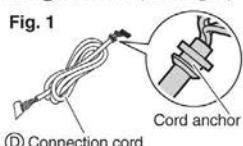

Fig. 2
- 1) Attach the ④ harness (with ferrite core), by connecting it to the S601 and S602 connectors on the ④ HA PCB. (See Fig. 2)
- 2) Insert the connector of the ④ harness (with ferrite core) into the S403 connector on the electrical wiring box. (See Fig. 2)
- 3) Install the ④ HA PCB to the electrical wiring box. (See Fig. 2)
- 1) Attach the ① harness (without ferrite core), by connecting it to the S601 and S602 connectors on the ④ HA PCB. (See Fig. 2)
- 2) Insert the connector of the ① harness (without ferrite core) into the S403 connector on the electrical wiring box. (See Fig. 2)